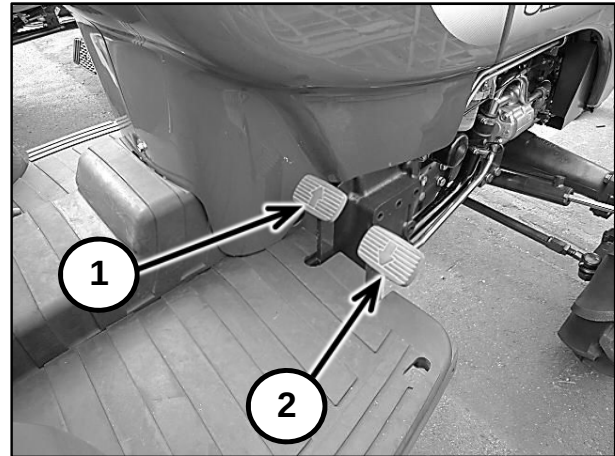

Figure 2-29
The ground speed of tractors equipped with a hydrostatic transmission is continuously variable, from zero to full rated speed in each range. Speed is controlled by the HST forward (1) in Figure 2-29, and reverse (2) in Figure 2-29, pedals located on the right-hand foot platform.
For forward travel, depress the forward pedal (1) in Figure 2-29, on the until the desired ground speed is reached. For reverse travel, depress the reverse pedal (2) in Figure 2-29. Unless the HST speed control switch is in the “LOCK” position, the transmission returns to neutral and the tractor stops when pedal is released.